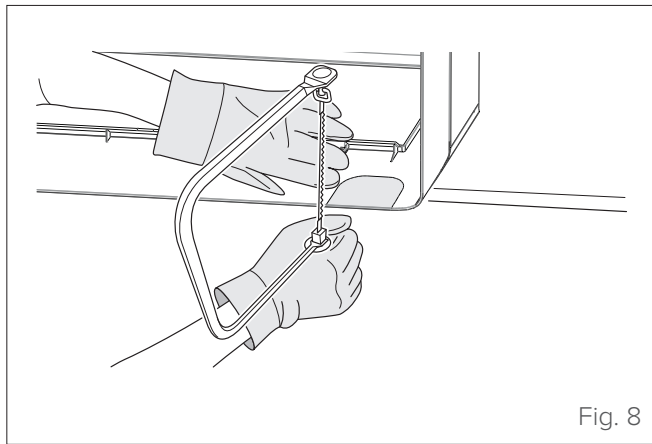

Fig. 8
- 2 If the wall hole is behind the unit, leave the pre-cut panel in place. If the wall hole is on the side of the indoor unit, remove the pre-cut plastic panel from the side of the unit using a jig saw (see “Fig. 8”).